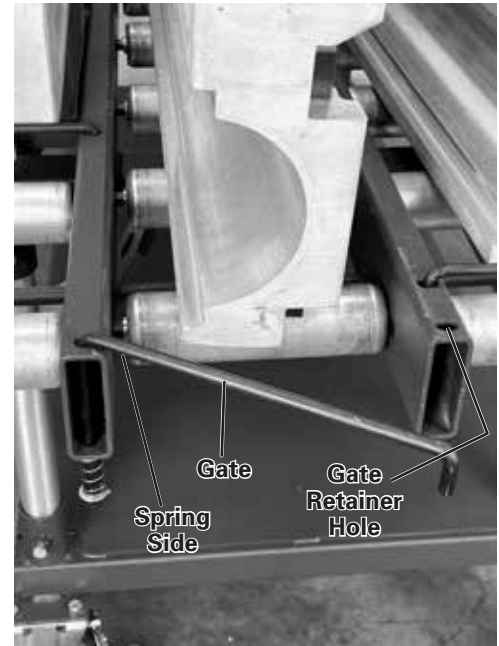

Figure 6
5. The gates on the roller bed are installed at the factory. Ensure that all eight gates (two per row) are in place and operable. To open, lift the gate from the spring side and rotate towards the front of the cart. To secure, return the gate to the retainer hole. (See Figure 6).